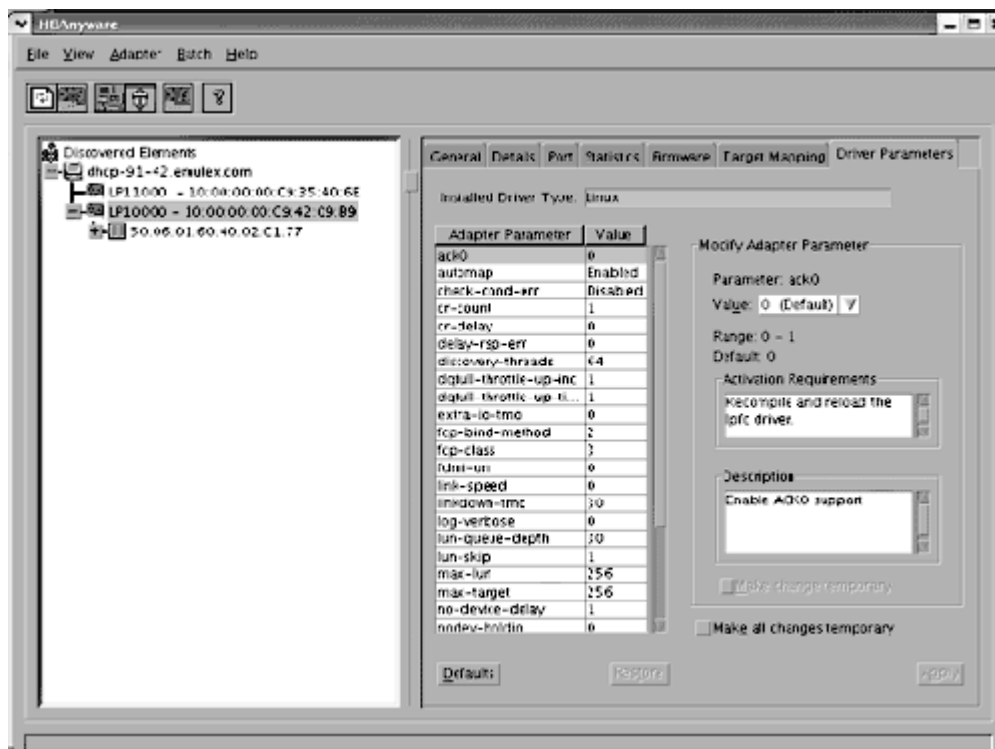

Figure 18: The HBAnyware, HBA Selected, Driver Parameters Tab
4. Click the **Driver Parameters** tab. The Installed Driver Types field displays the driver operating system version that is installed on the HBA (Figure 18).